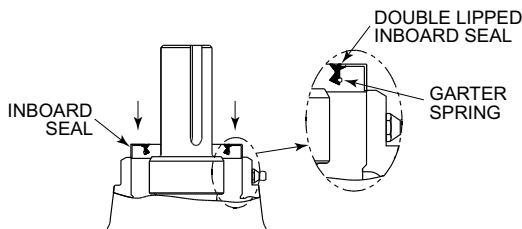

Figure 6.2.3.1 Orientation of Inboard Seal for Installation
3. Place the ring on the seal. Reference **Figure 6.2.3.2**.